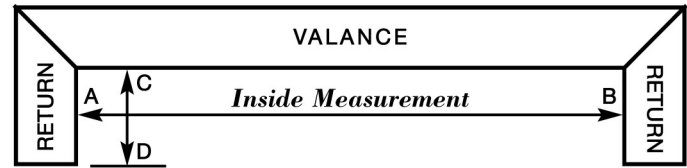

Fig. 1
- Valances and returns are cut at the inside measurement. The inside measurement refers to the inside wall of the valance or the returns. (Lengths A B and C D in Fig. 1).
- Returns can be cut as small as  $\frac{1}{2}$ " minimum inside (length C to D on Fig. 1)
Valance is cut to the ordered blind width plus  $\frac{5}{8}$ " on the inside of the valance (length A to B on Fig. 1) with standard returns.
Valance is cut to the ordered valance width on the inside of the valance (length A to B on Fig. 1) with returns made as ordered. Always make sure the width ordered is large enough to clear the width of the headrail and brackets.